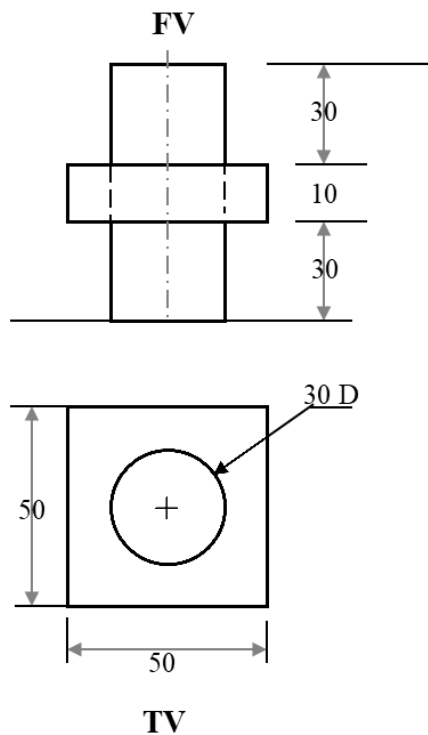

Figure 6
3. Draw Isometric View for **Figure 6**